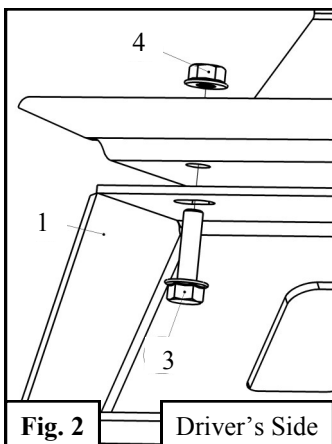

Fig. 2 Driver's Side
4. Loosely install skid (1) plate with the supplied M8 flange bolts (3) and M8 serrated flange nuts (4) according to **Figures 2 & 3**. **Note:** For Rubicon models with auto sway bar disconnect, a wobble socket is recommended to tighten the inner two bolts